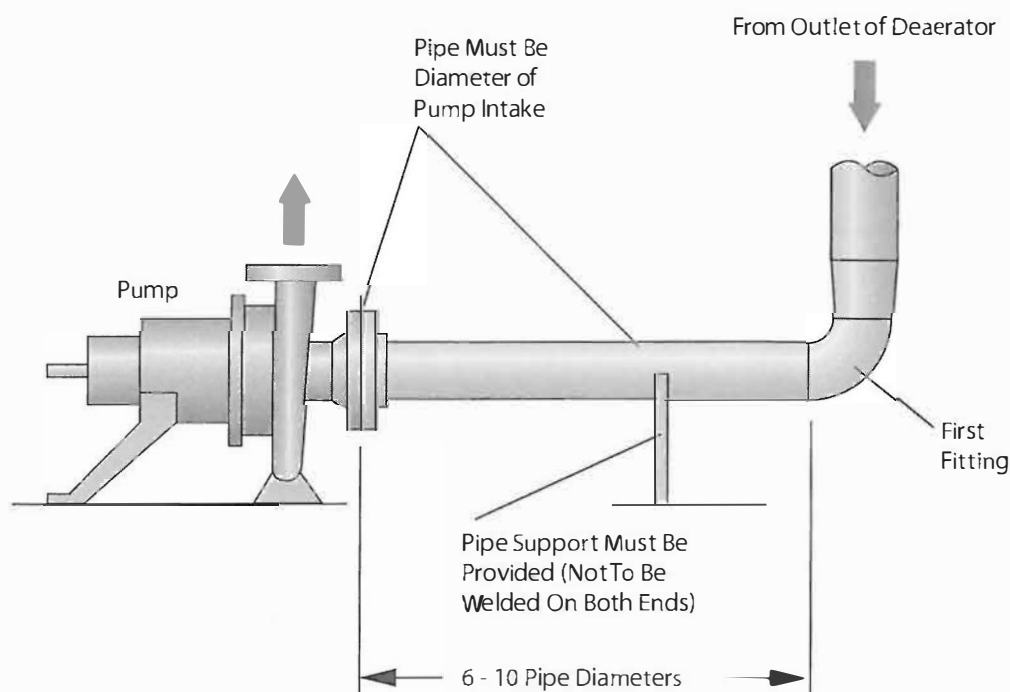

FIGURE 9 - TYPICAL PUMP PIPING
10. Provide properly designed supports and anchors for all piping where necessary to prevent undue stress from being imparted on equipment such as pumps, valves and the heater. Care should be taken as end reactions transmitted to rotating equipment, such as pumps, may deform the equipment. Therefore equipment manufacturers' recommendations on allowable forces and movements should be followed. See Figure 9.